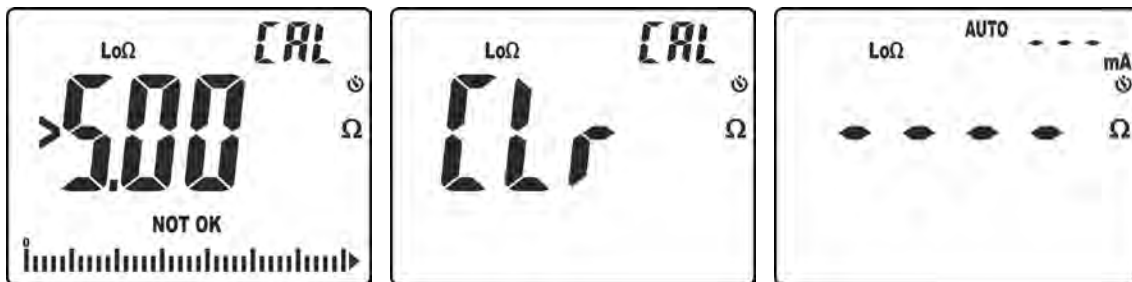

Fig. 34: Results of zeroing not correctly performed
6. Messages “ $>5.00\Omega$ ” and “NOT OK” are initially shown on the display (see Fig. 34 – left side). Subsequently, message “CLR” is shown, to indicate that calibration has been cancelled (see Fig. 34 – middle) and the message “ZERO” is not shown in the measuring screen (see Fig. 34 – right side).